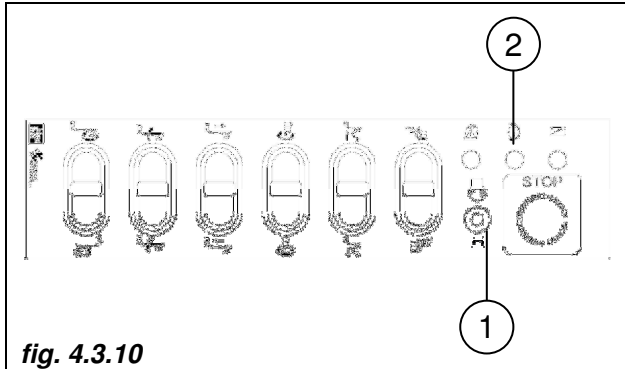
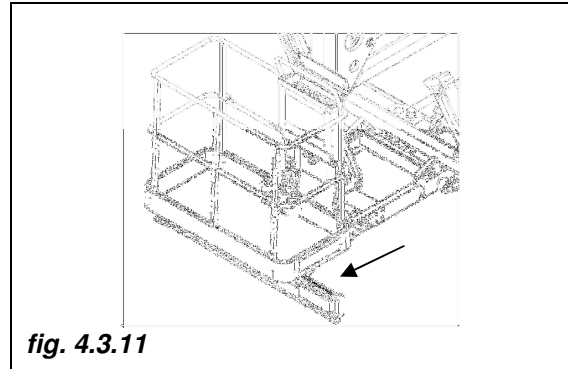

fig. 4.3.10
fig. 4.3.11
A device (*fig. 4.3.11*) is mounted on the machine that blocks all manoeuvres in the case of incorrect manoeuvre and collision with underrun bar. To reactivate the manoeuvres you need to move the engine start/stop lever upwards (*pos. 1 fig. 4.3.10*).
On the machine there is a device that indicates whether the work platform is not in the central position, when the jib is in the vertical position, by means of a LED and acoustic warning (*pos. 2 fig. 4.3.10*).